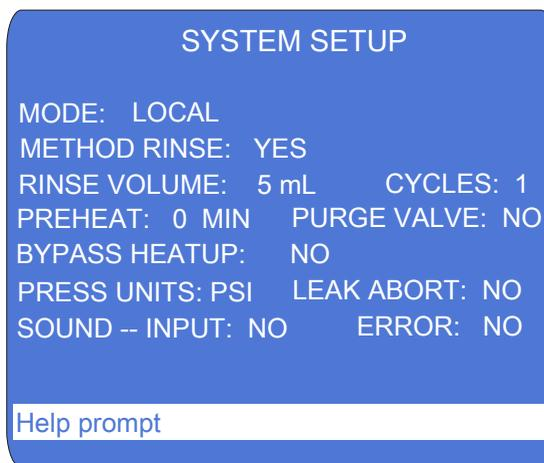

Figure 3-15. System Setup Screen
2. Press **Menu** to display the **MAIN MENU OF SCREENS** and press **5** to display the **SYSTEM SETUP** screen (see Figure 3-15).